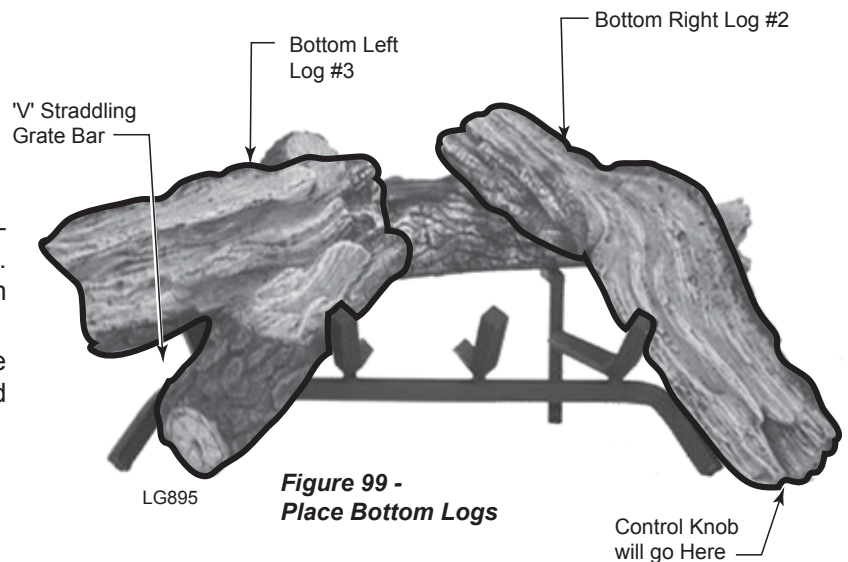

**Figure 99 -
3. Place Bottom Right Log #2 along outside of grate. Rest end on Rear Log #1. Control knob will stick through bottom notch of log. *Figure 99*
4. Place Bottom Left Log #3 on grate. The "V" of the log should straddle the end grate bar. *Figure 99*